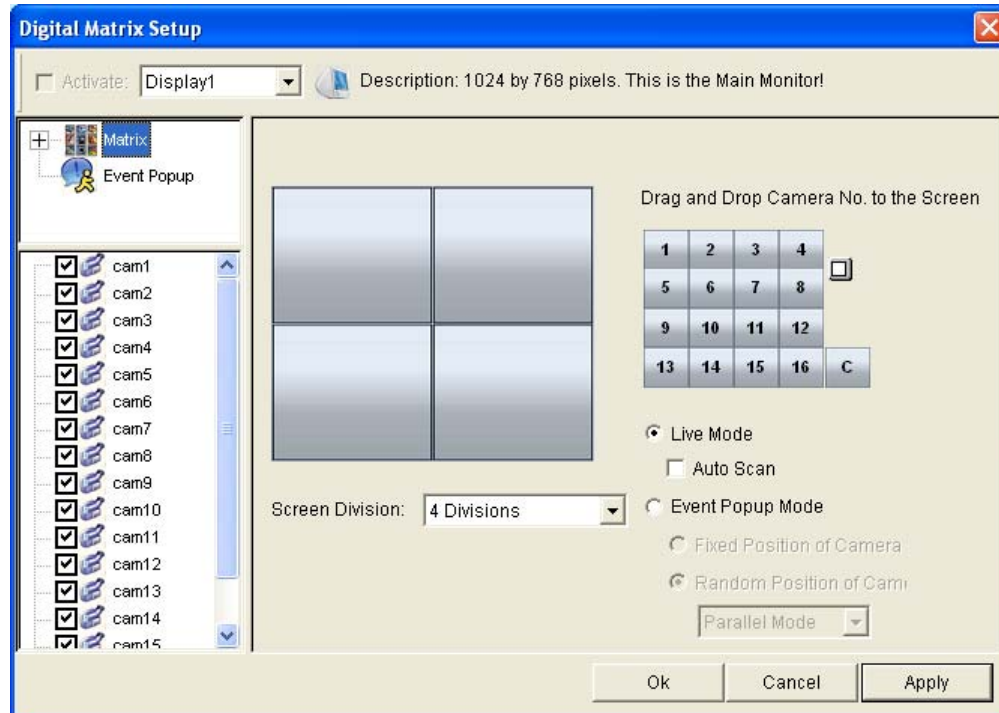

Figure 3-49
9. In the upper-left column, click the **Matrix** icon and return to Figure 3-49.
4. After above settings, click the **Matrix** icon and return to Figure 3-49.